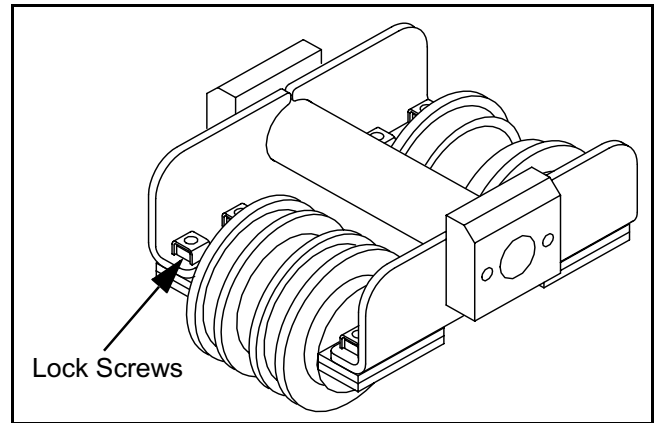

Figure 6 - 12 Track roller
- 4) Remove four lock screws which secures the roller to the bogie. (Figure 6 - 12)